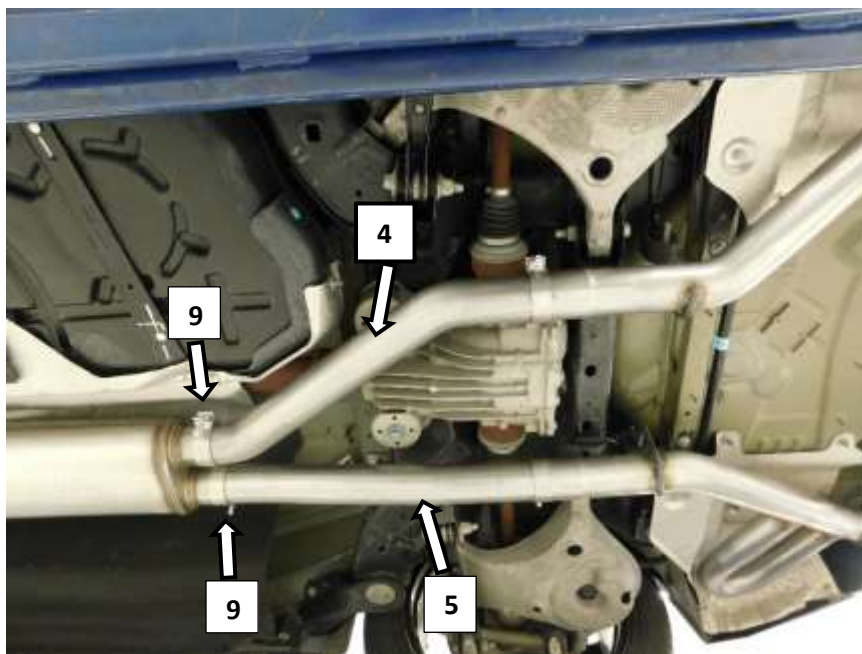

Figure 7
6. Install the Left and Right Muffler outlet pipes (4) (5) with the short Straight ends of the pipes into the muffler. Align the pipes approximately 3 Inches below the axle. Tighten the clamps (9) to allow for adjustment. **Fig.7**